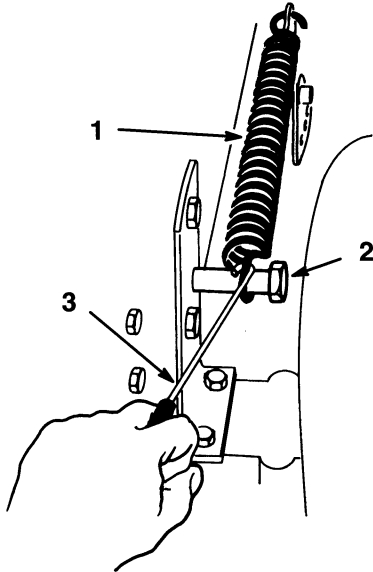

**Figure 5**
4. Install the mower pivot mount brackets onto the front axle with bolts and lock nuts (Fig. 5).